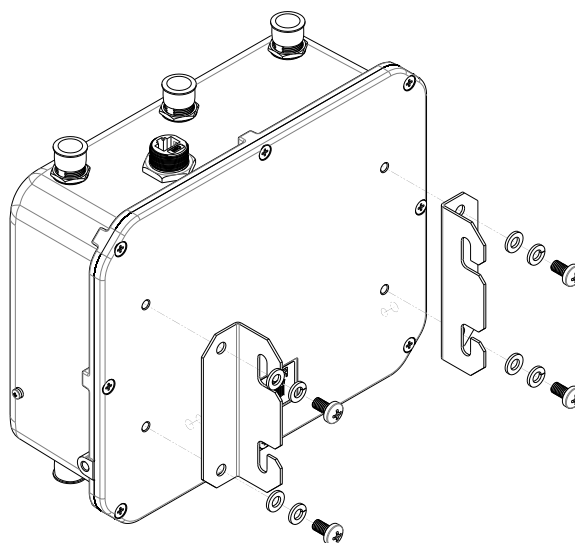

Figure 7 – Mounting brackets to the device
- a. Figure 7 shows position of brackets.